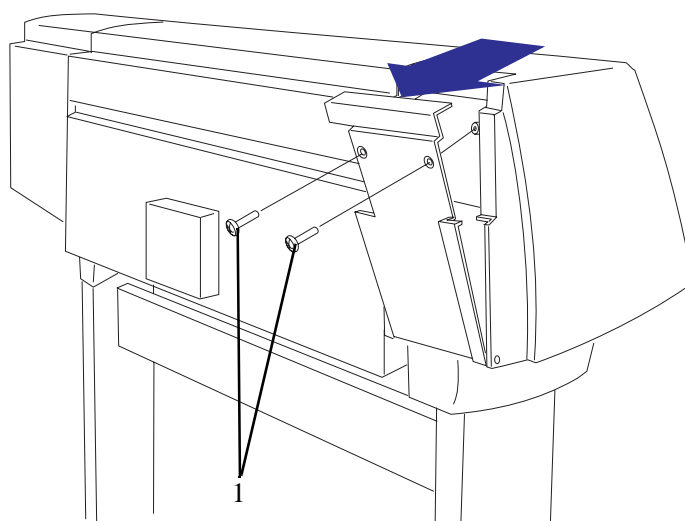
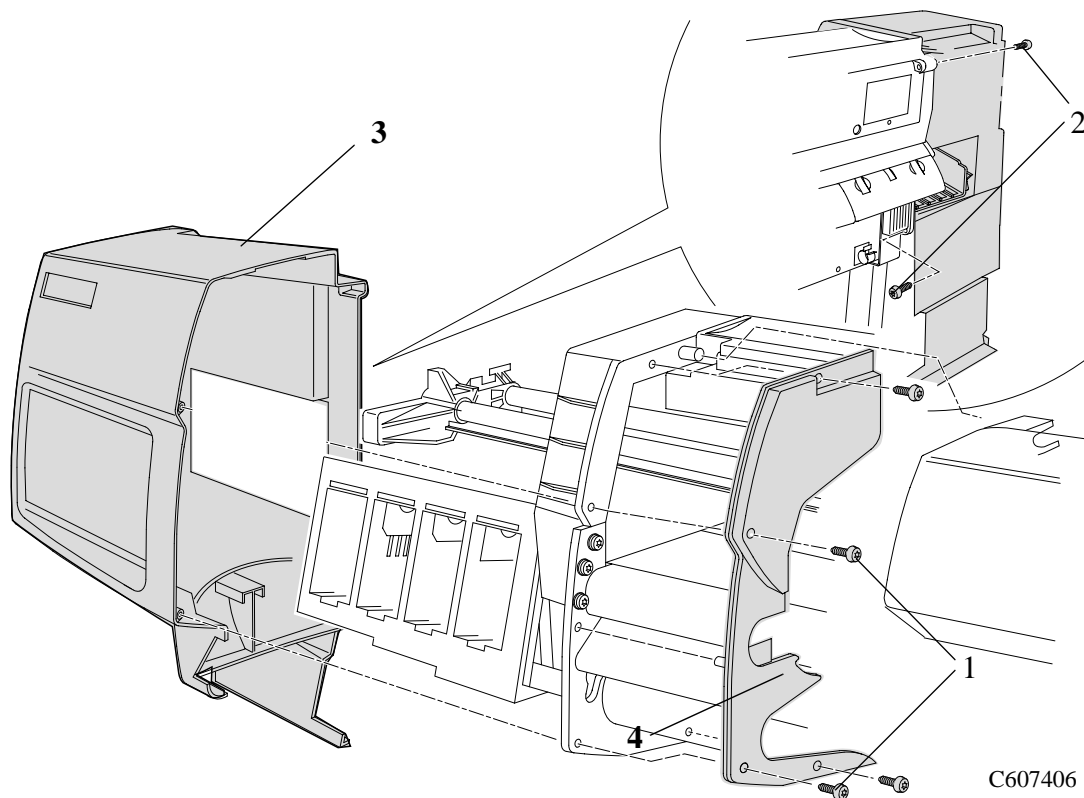

Figure 8: Left Hand Cover
Figure 15: Left Hand Cover
Refer to Figure 8 to Figure 15.
1. Open the door at the back of the left hand cover by removing the two T-15 screws (item 1) (refer to Figure 8).
In the following steps, refer to Figure 15.